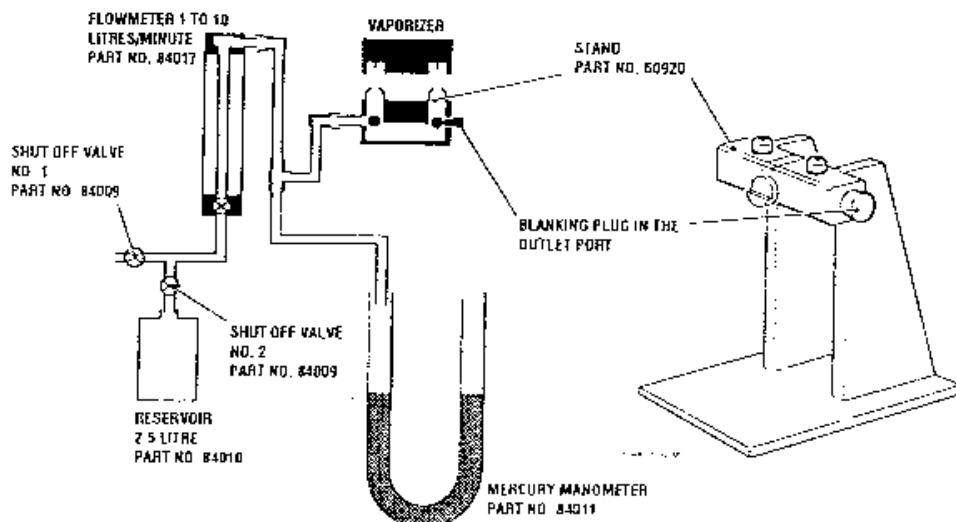

Fig. 7.1 Leak Test At OFF And ON
1. Mount the vaporizer on to stand Part No. 60920, connect it into the test circuit and open shut off valve No. 2 so that the reservoir is in circuit. Ensure that the blanking plug is fitted into the outlet port of the stand, as illustrated in Fig. 7.1